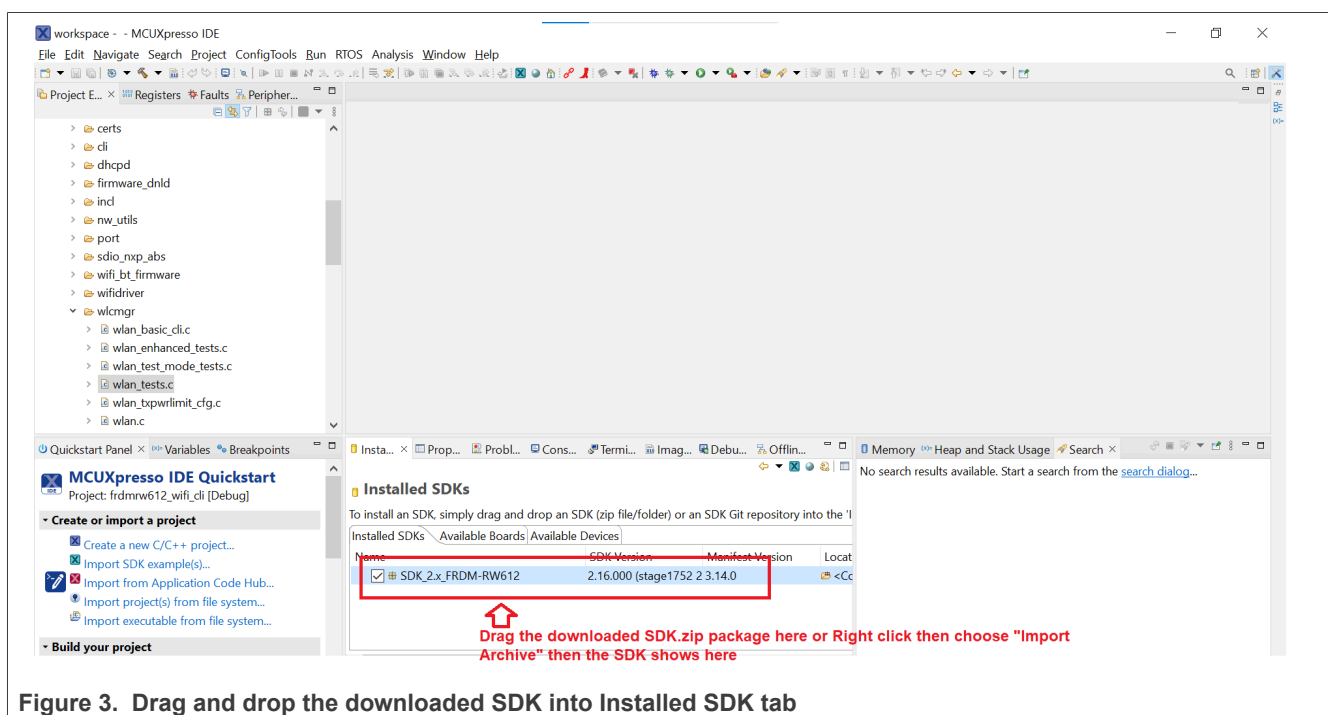

Figure 3. Drag and drop the downloaded SDK into Installed SDK tab
- Drag and drop the SDK into the *Installed SDKs* tab (Figure 3)